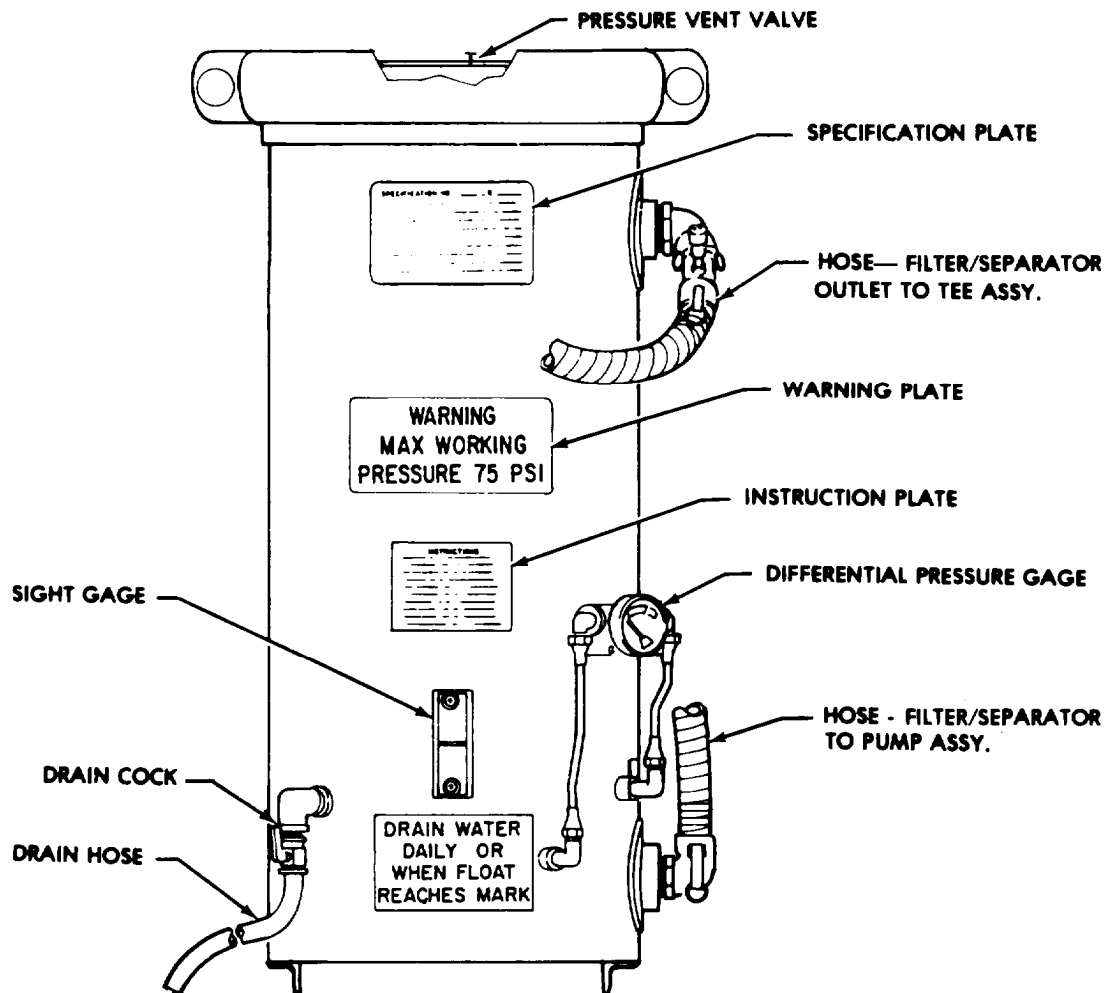
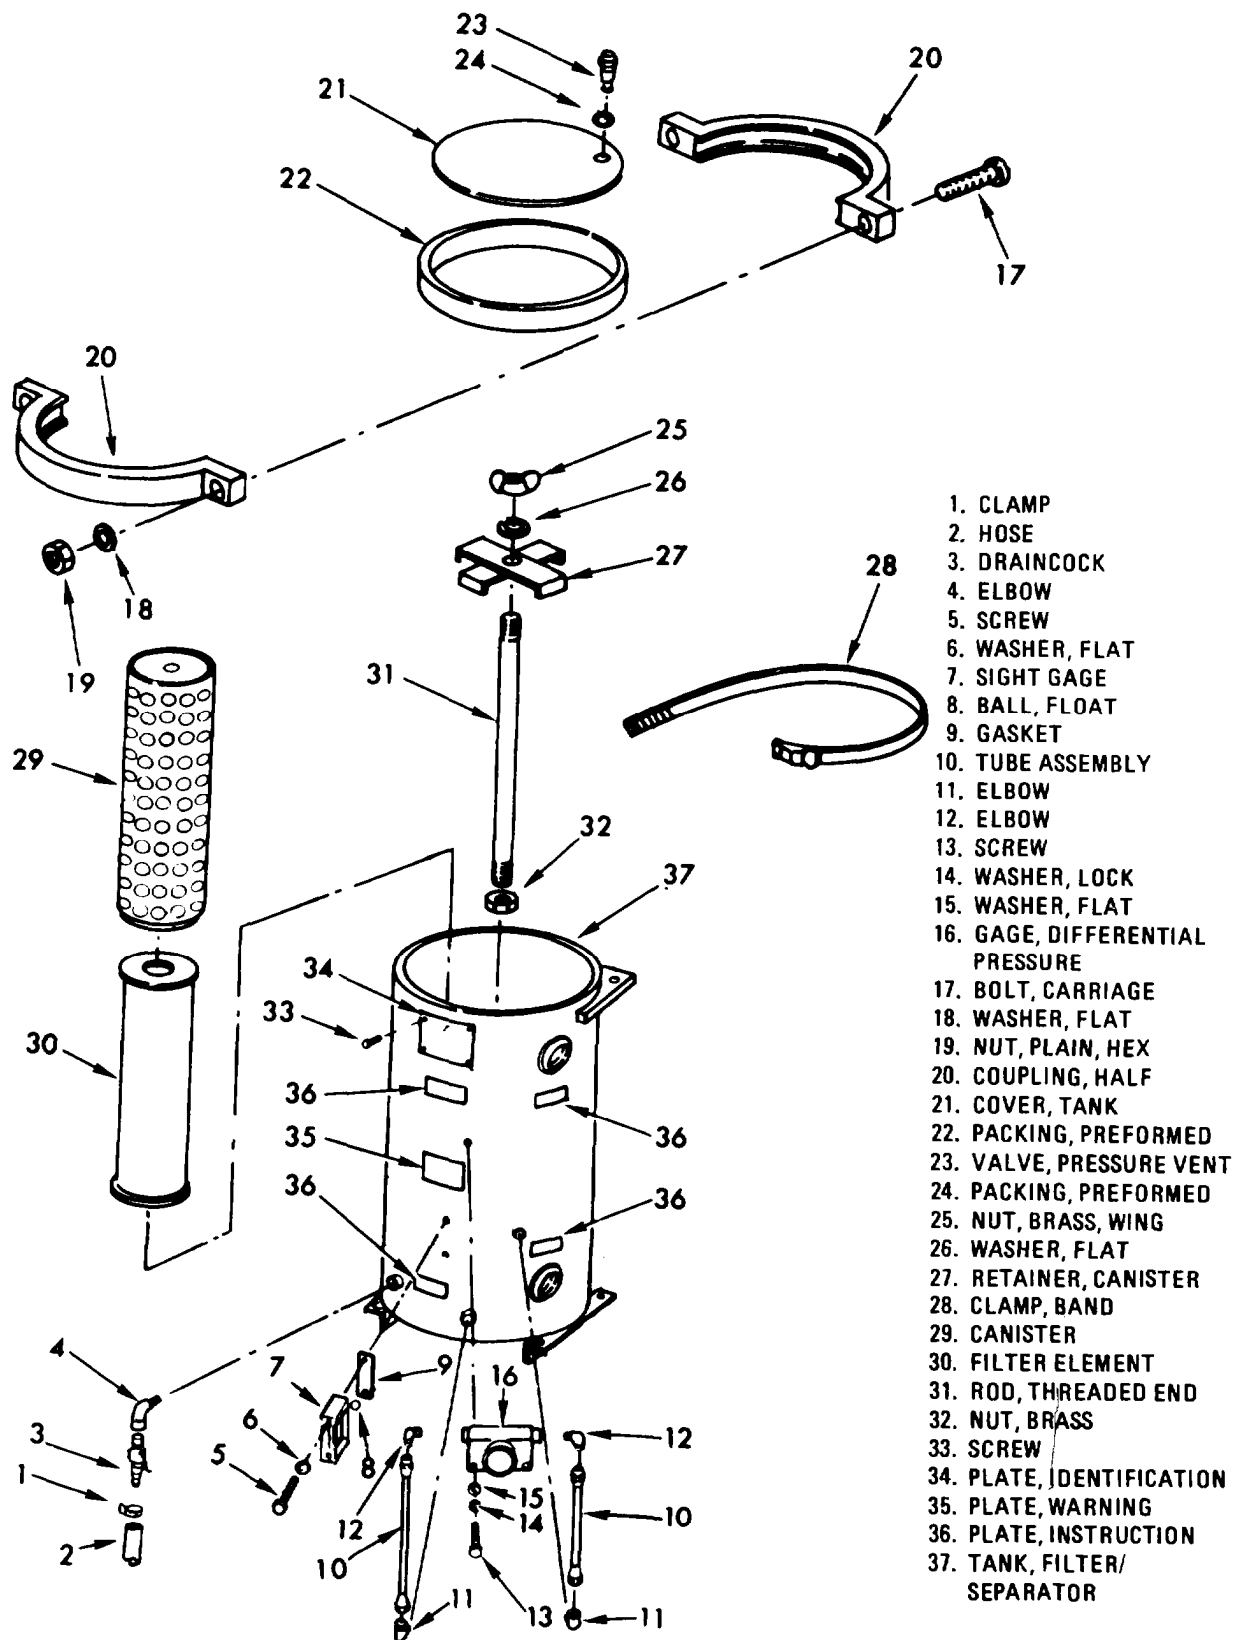

Figure 5-3 Filter/Separator
Figure 5-4. Filter/Separator, Disassembly and Reassembly.
a. Removal (figure 5-3).
(1) Open drain cock and drain filter/separator effluent into a suitable container.
(2) Disconnect inlet and discharge hoses.
(3) Remove screws, washer, and nuts, and detach filter/separator from A-frame.
(4) Remove elbows.
b. Disassembly. (figure 5-4)
- (1) Remove clamp (1), hose (2), drain cock (3), and elbow (4).
- (2) Remove screws (5), washers (6), sight gage (7), float ball (8), and gasket (9).
- (3) Remove tube assemblies (10) and elbows (11 and 12).
- (4) Remove screws (13), washers (14 and 15), and differential pressure gage (16).
- (5) Remove bolts (17), washers (18), nuts (19), to remove coupling halves (20), tank cover (21), and packing (22).
- (6) Remove pressure vent valve (23) and packing (24) from tank cover.
(1) Replace filter elements, O-rings, gaskets, hoses, tubing, and band clamp.
(2) Replace sight gage if sight window shows any fogging or other damage.
(3) Replace a defective pressure gage.
(4) All metal parts shall be repaired, if possible, or replaced.
(5) Replace warning plate and instruction plate if defaced or deteriorated.
e. Assembly. (figure 5-4)
- (1) Install identification plate (34) with screws (33).
- (2) Install rod (31) and nut (32).
- (1) Install elbows at inlet and discharge holes of filter/separator (figure 5-3).
- (2) Attach filter/separator to A-frame with screws, washers, and nuts.
- (3) Connect inlet and discharge hoses.
- (4) Close drain cock.